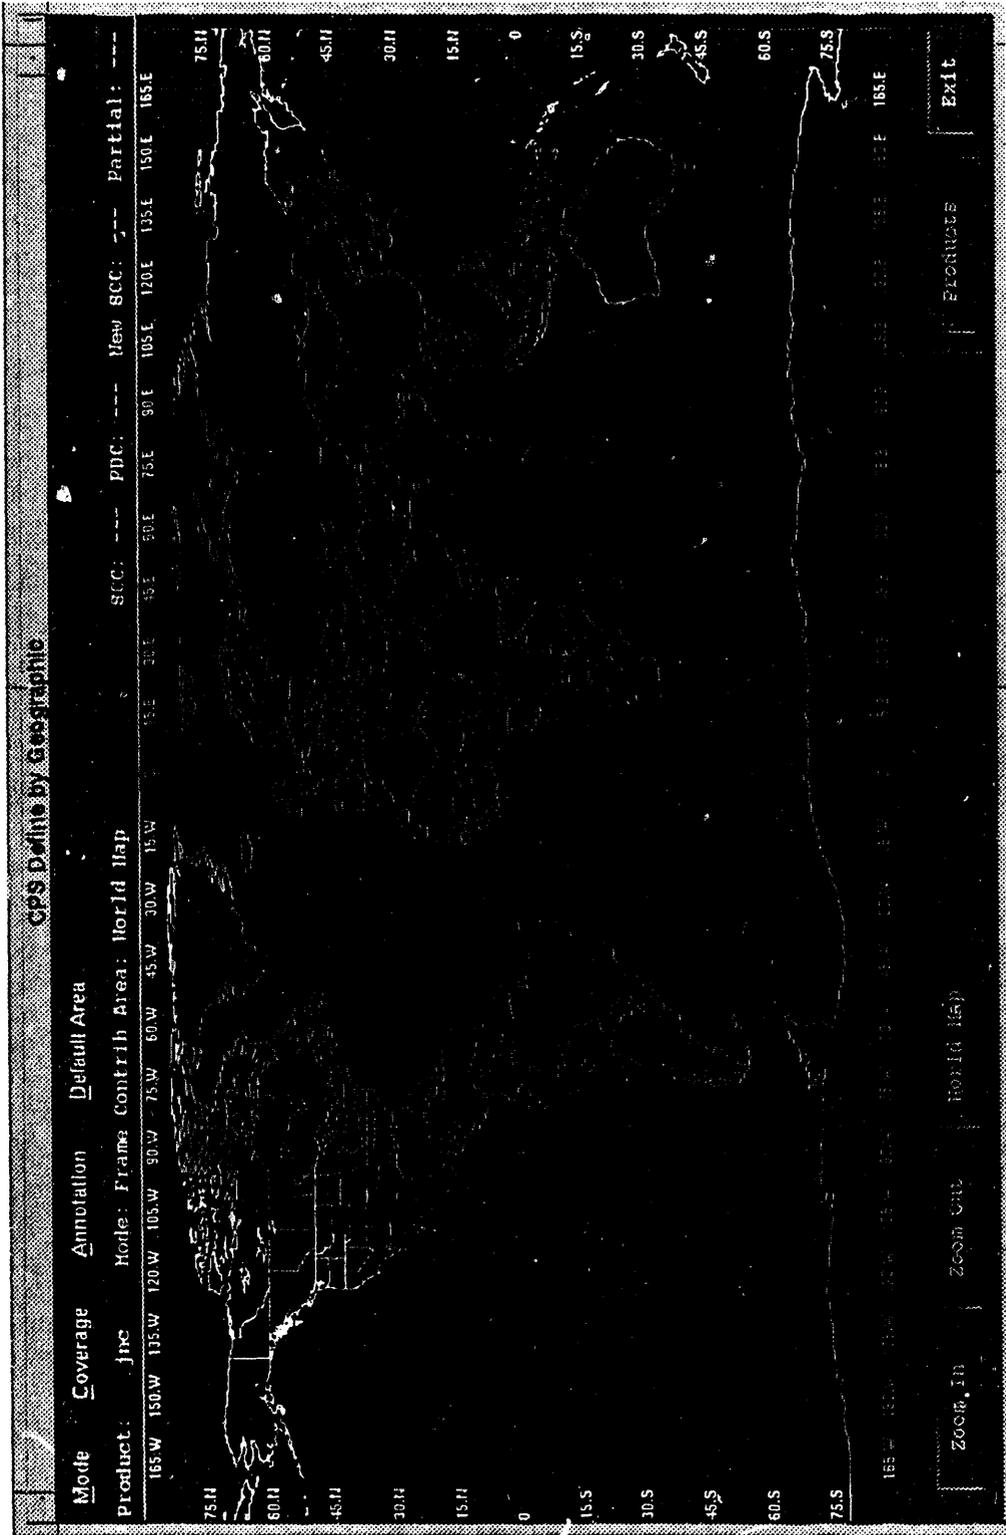

Figure 2-10. Geographic Display
All geographic map displays contain basic map manipulation functions; some are accessed from the menu bar; others are available from buttons and windows. For instance, if the geographic display (Figure 2-10) is entered from the CPS Executive **Source Data**, through clicking on **View Geographic Coverage**, the map is always in Zoom mode. If the geographic display is entered through **Task** on the CPS Executive and clicking on **Define by Geographic**, the mode can be either Zoom or Define Task. You can choose the mode you want by selecting Mode.
- 2- When the desired area is displayed in the map region, select **Define** from the **Default Area** pull-down menu on the geographic display (Figure 2-10).